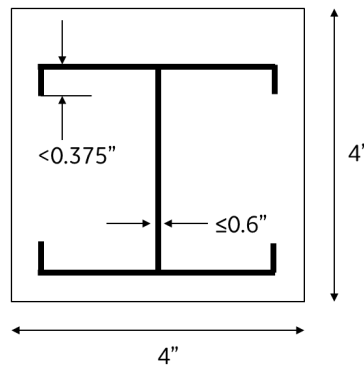

Figure 1. I-Beam Maximum Dimensions
3.2. Criteria for I-Beam Bridges. I-Beam bridges must have a single web with a thickness less than or equal to 0.6 inches. The caps must have a maximum thickness of 0.375 inches and they do not have to be equal in length, width and thickness. The radius of the web-to-cap fillet must be no greater than 0.5 inches. The cross section is permitted to vary along the length of the bridge and does not have to follow the centerline if the required dimensions are maintained. The maximum dimensions for I-Beams are shown in Figure 1.